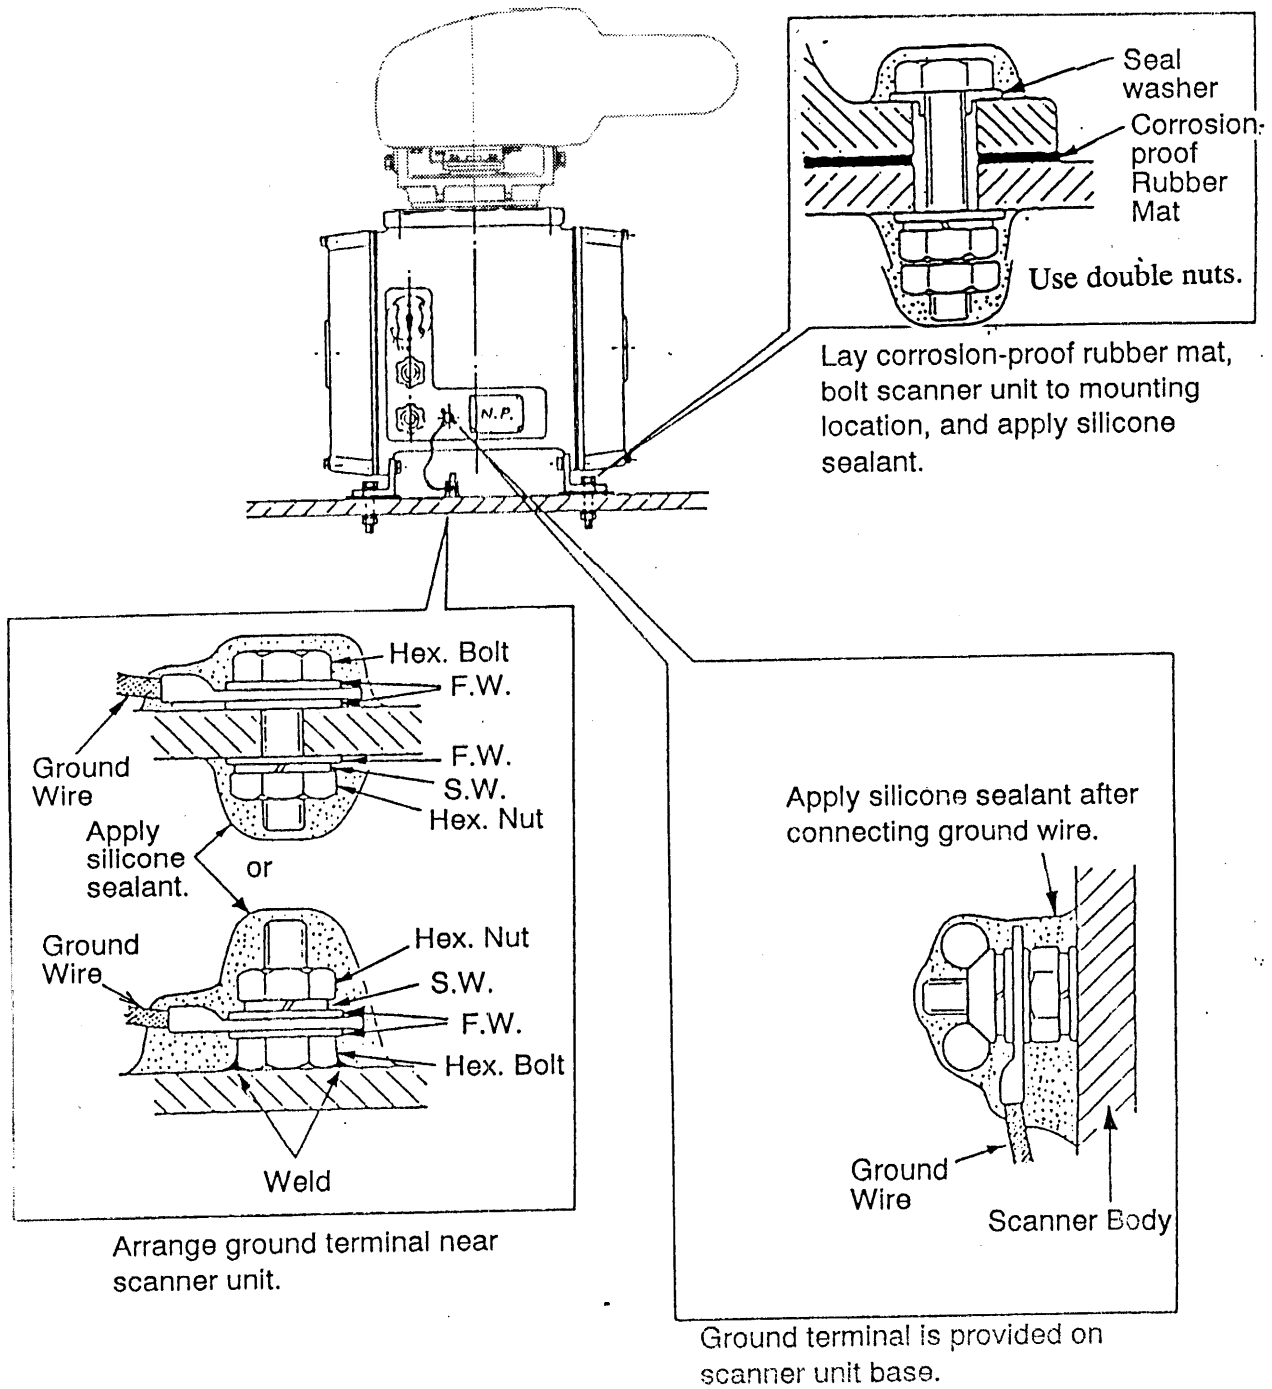

Fig. 1-4
- 3) Position the radiator as shown in Fig. 1-4 and arrange the ropes A and B. The length of ropes A and B should be the same and more than 1m.